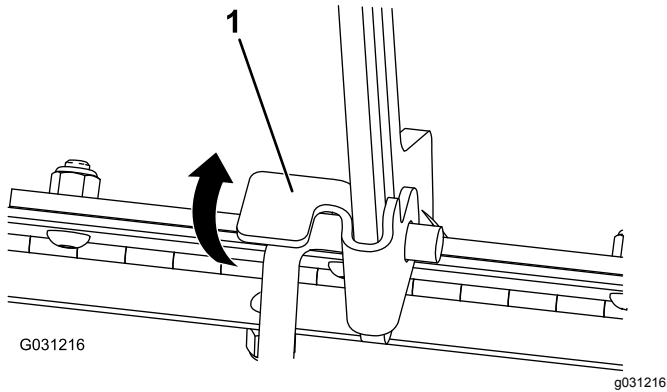

Figure 40
1. Lift up on the tab securing the prop rod (Figure 40)